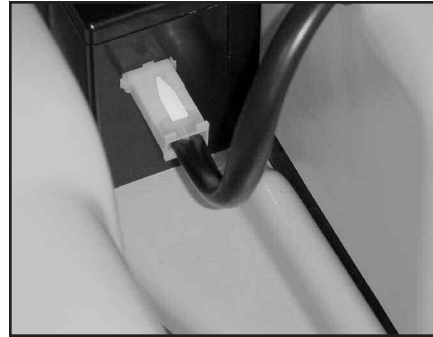

Figure 7G
1. Remove each of the battery connectors by pinching the white tab on the connector at the junction box and gently pulling free (See Fig. 7G, Above).